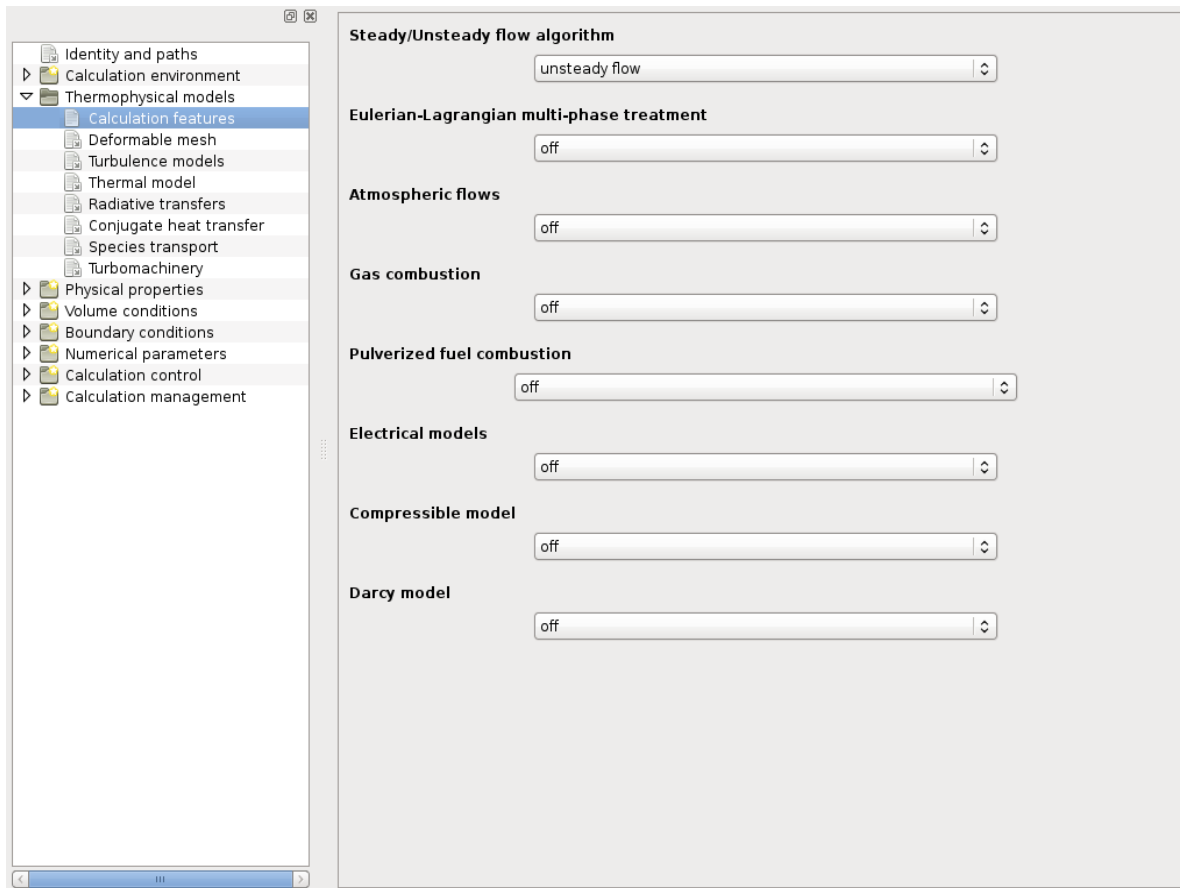
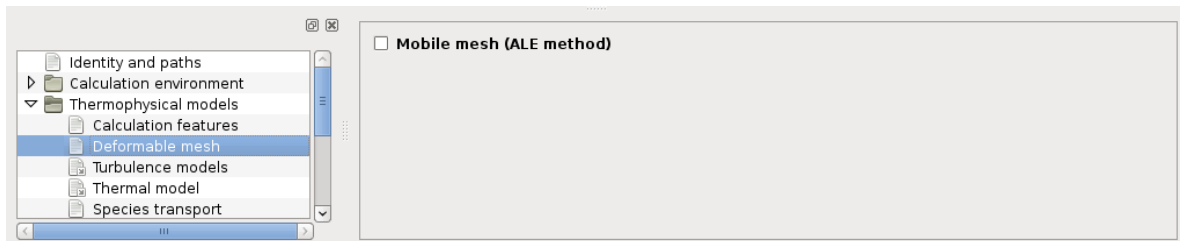
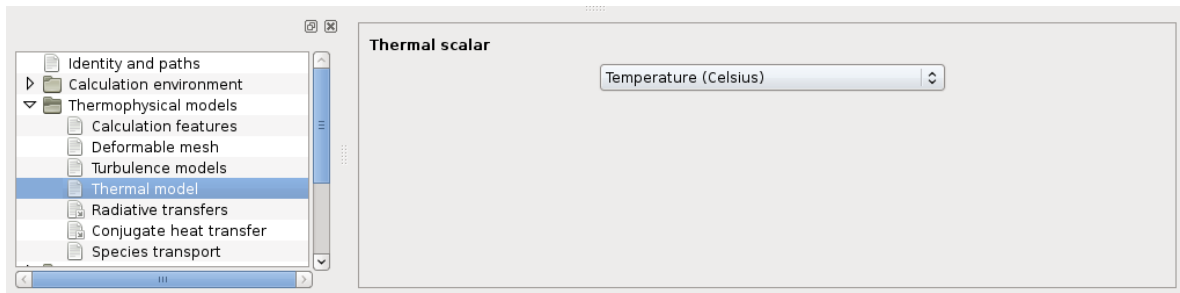
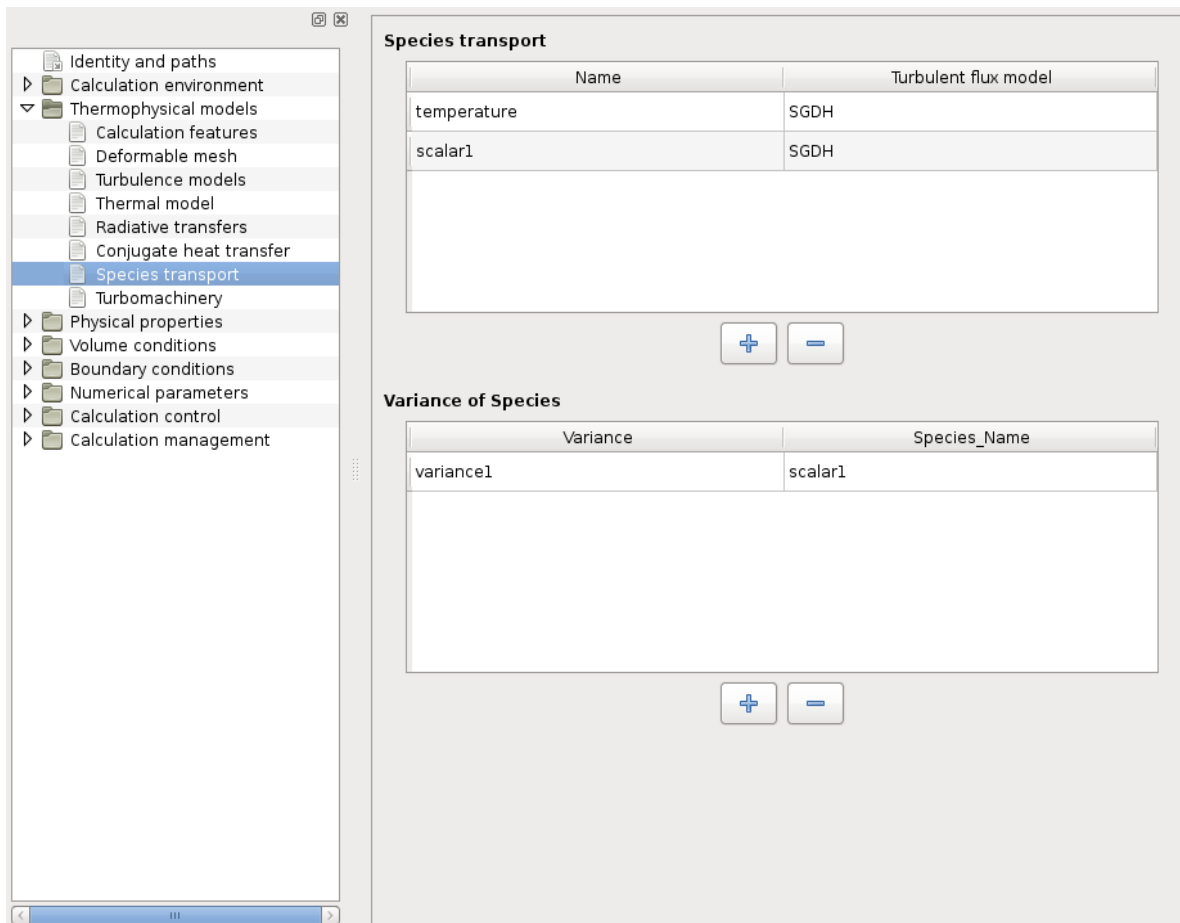

Figure 10: Calculation features options
Figure 11: Mobile mesh option
Figure 13: Thermal scalar selection
Figure 14: Definition of the transported species/scalars
This operation is done in the Graphical User Interface (GUI) or by using the user subroutines in `cs_user_parameters.f90`. In the GUI, the initialisation is performed by filling the parameters displayed in Figure 10 to 27. If the option 'Mobile mesh' is activated in Figure 11, please see Section 8.11.4 for more details. The headings filled for the initialisation of the main parameters are the followings:
- Thermophysical model options: Steady or unsteady algorithm, specific physics, ALE mobile mesh, turbulence model, thermal model and species transport (definition of the scalars and their variances), see Figure 10 to Figure 14. If a thermal scalar, temperature or enthalpy, is selected, two other headings on conjugate heat transfer and radiative transfers can be filled in (see Figure 13).